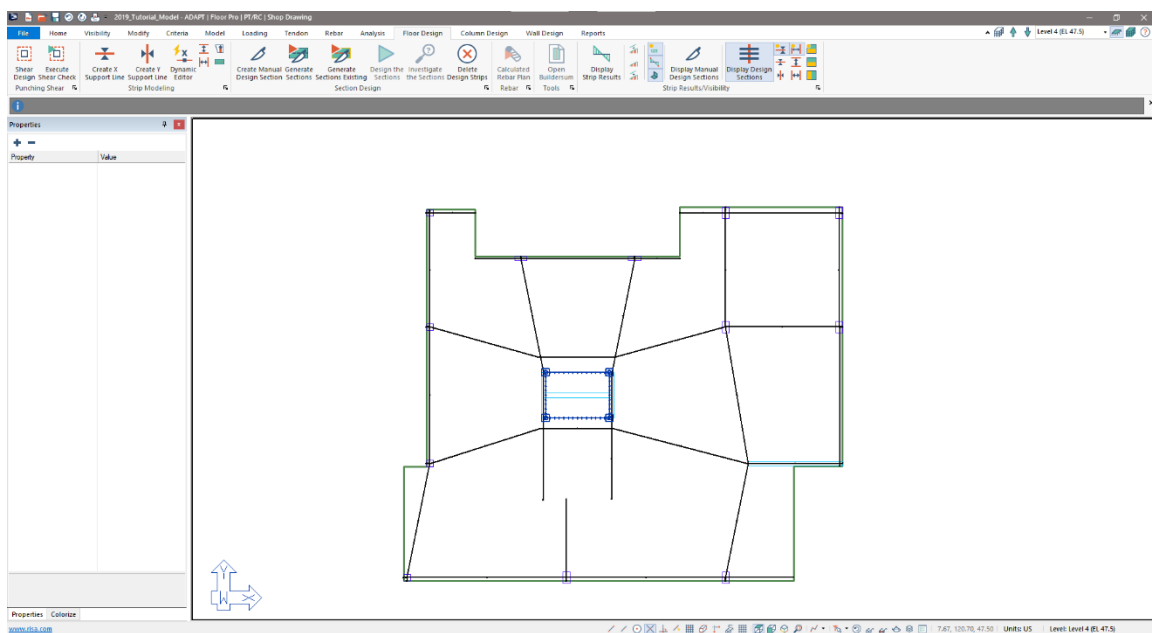

Figure 10-9
- Your support lines should look similar to those shown in **FIGURE 10-9**.